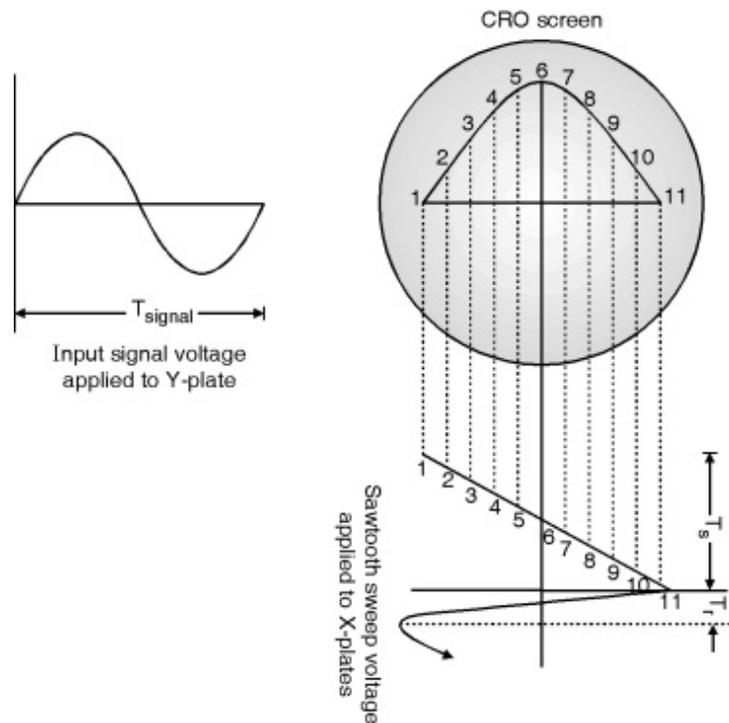

Fig. 7.14.5(b) : When $T_{\text{signal}} = 2 T_{\text{sweep}}$
- In Fig. 7.14.5(a) and Fig. 7.14.5(b) it must have been observed by the reader that horizontal sweep signal to x-plate deflection must be applied at the same time when input signal on vertical deflection (Y plate) in order to have stationary wave pattern.